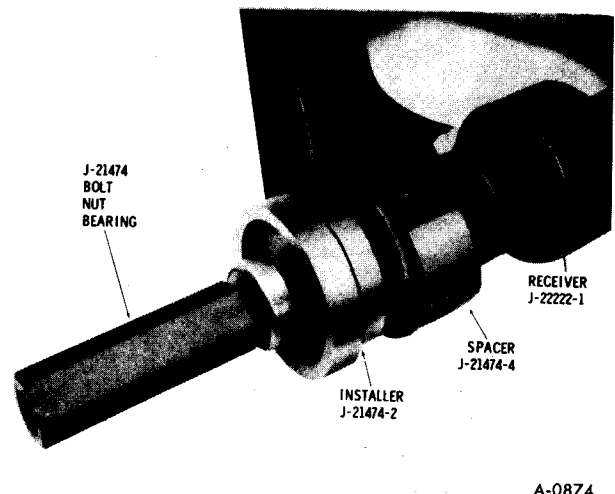

Figure 20—Installing Upper Control Arm Bushing
1. Install tools and press bushings into control arm (figure 20).